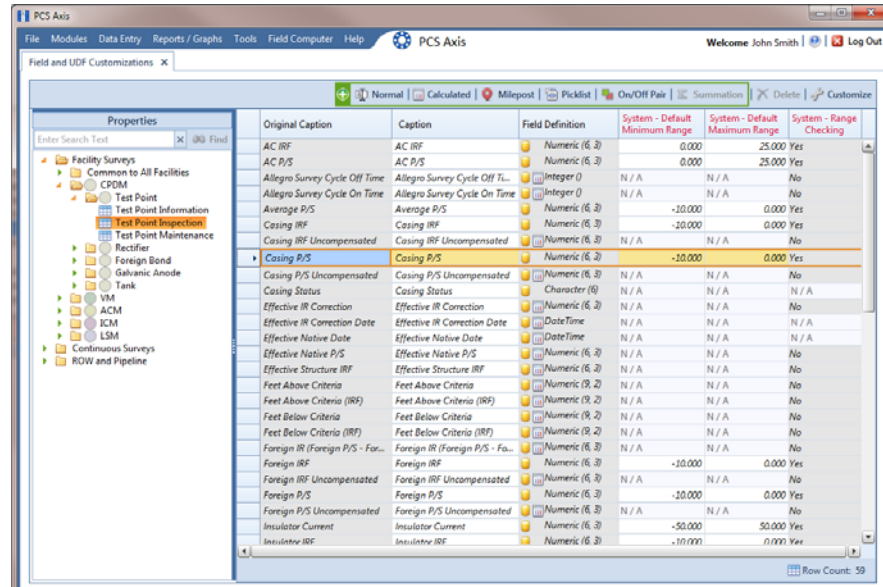

Figure 3-31. Field and UDF Customizations
For example, double-click **Facility Surveys > CPDM > Test Point > Test Point Inspection**. The grid displays related fields and property settings for the *Test Point Inspection* data entry grid (Figure 3-31, page 72).
- 4 Select the inspection field you want to set up for range checking. For example, select *Casing P/S* as shown in the following figure (Figure 3-31, page 72).